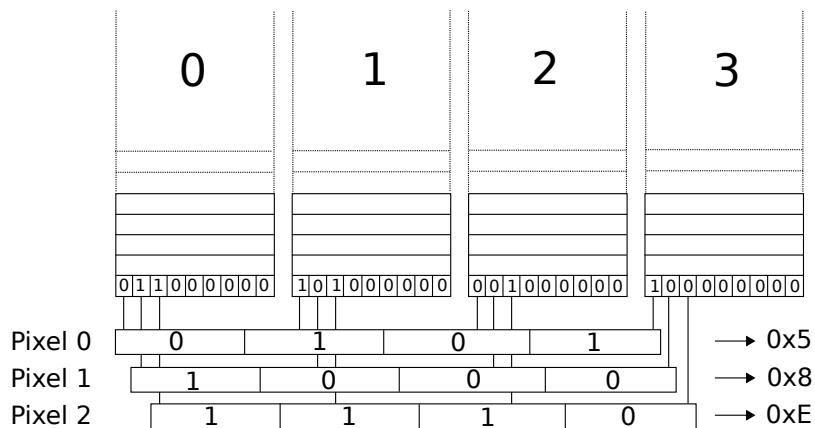

Figure 1.18: EGA bank layout
To write the color of the first pixel, a developer has to write the first bit of the nibble in plane 0 (R), the second in plane 1 (G), the third in plane 2 (B) and the fourth in plane 3 (I). The CRT Controller then reads 4 bytes at a time (one from each plane) resulting in 8 pixels on screen. So in figure 1.18 the first pixel has color magenta(05h), second pixel dark grey (08h) and third pixel bright yellow(0Eh).